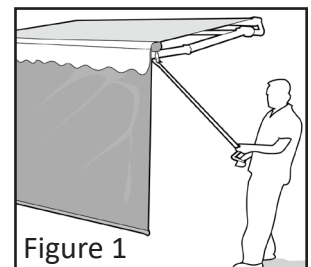

Figure 1
6. Turn the Crank Wand to unroll the Weatherbreaker Panel until the Panel is fully extended. See **Figure 1**.